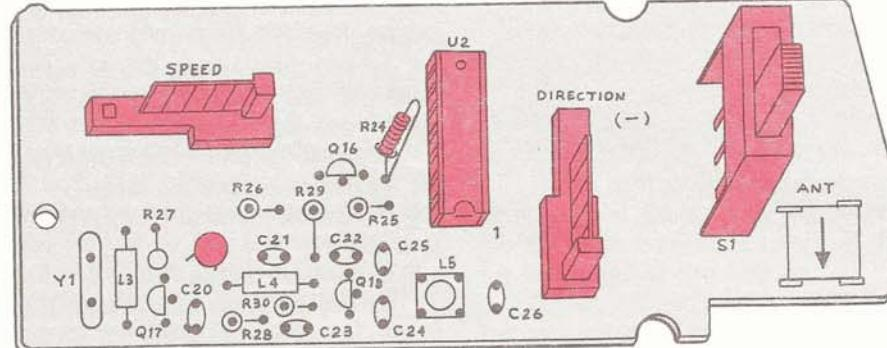

FIG. 56
Refer to Fig. 56 and assemble the first stage of your transmitter as follows.
11. This completes construction of this stage. Referring to Fig. 56, confirm that all components and leads have been inserted in the proper holes, that all solder joints are of good quality, and that they are not bridging together or across foil traces.